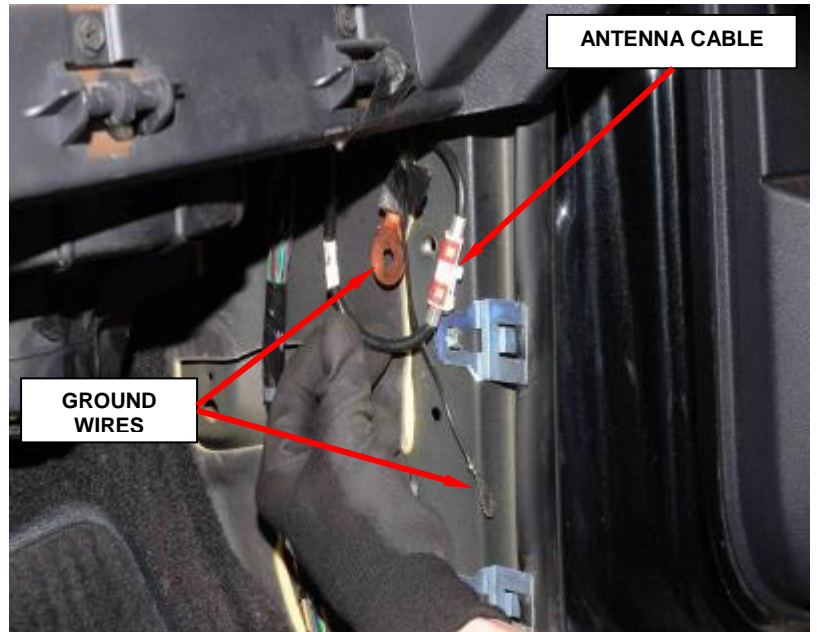

Figure 73 – Ground Bolt and Nut
26. Remove the bolt and nut and disconnect the grounds on the right A-pillar (Figure 73).
27. Disconnect the antenna cable (Figure 73).